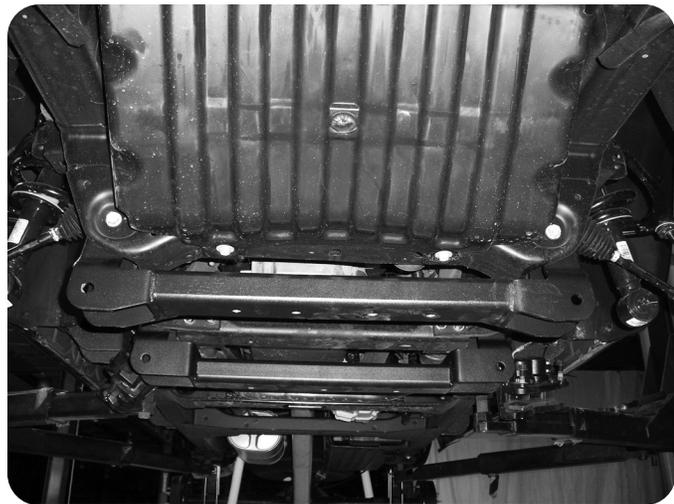

Figure 11
19. Install the front crossmember in the control arm pockets with the factory lower control arm bolts, nuts and washers. When installed the offset in the crossmember ends should be toward the front of the vehicle **Figure 11**. Run bolts from front to rear. Leave hardware loose.